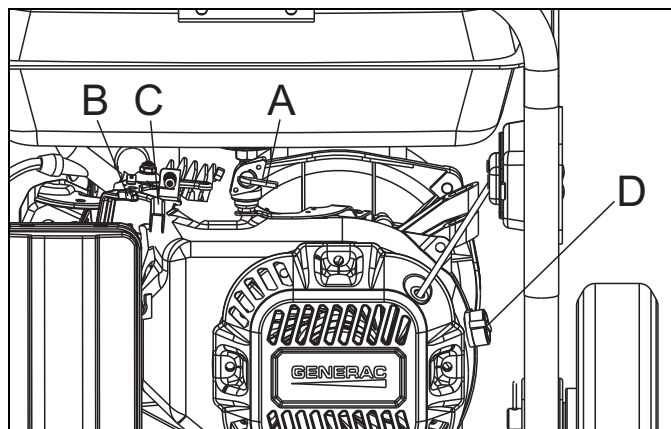

Figure 5-4. Start the ST20 Water Pump
1. Move fuel valve lever (A) to ON position (Figure 5-4).
2. Move choke lever (B) to CHOKE position.